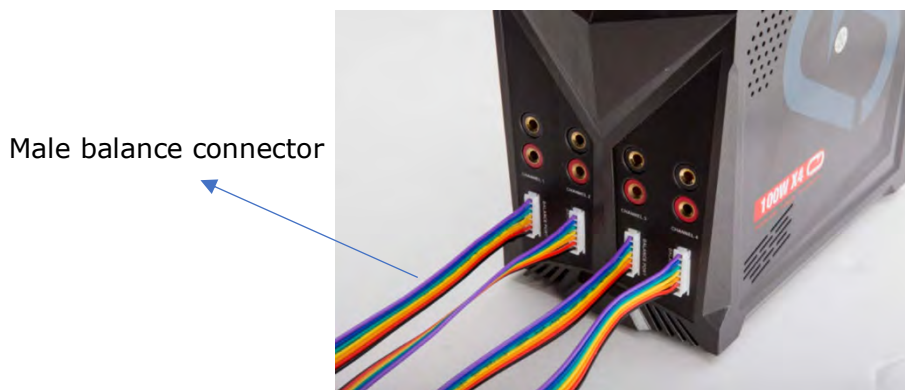

Figure 1: Front side of the Venom PROQUAD charger and balance connector cables
- a. Connect one balance connector to each of the four charging channels on the front of the charger (Figure 1).